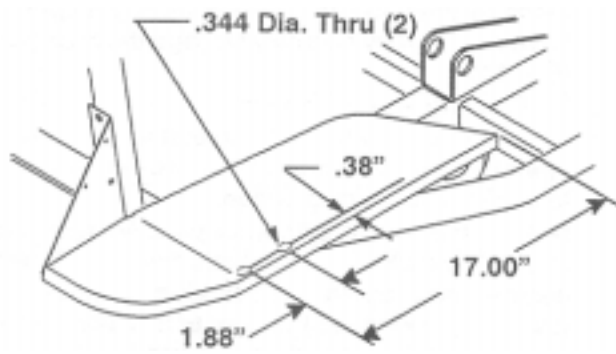

Figure 7
- Refer to the dimensions in Figure 7 to mark, locate, and drill 2 holes (11/32 inch diameter) through the left floor board.